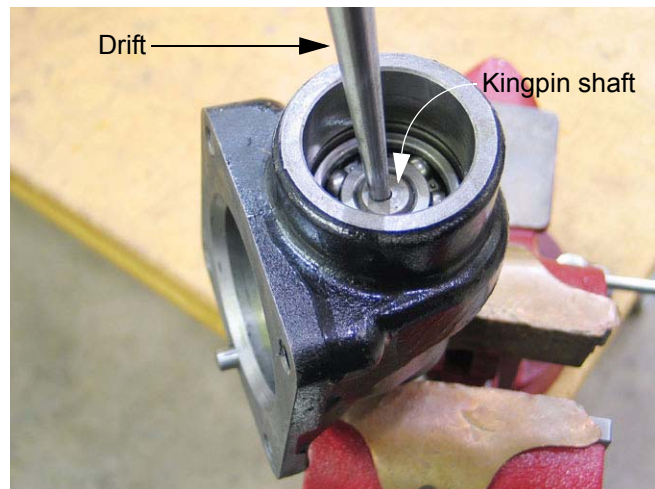

Figure 8.3
8.3. Carefully drive the kingpin shaft out the bottom of the kingpin housing. See Figure 8.3.